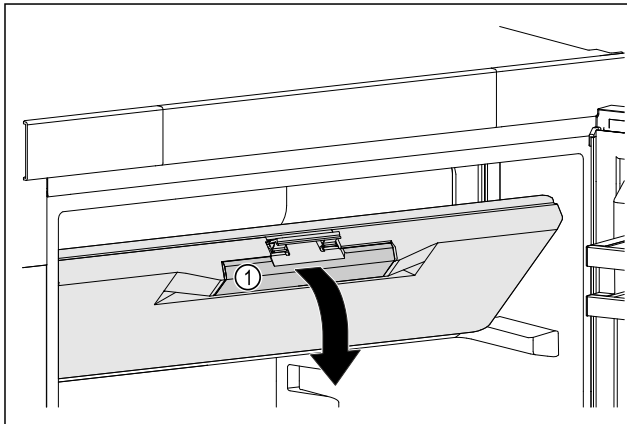

Fig. 23
- Hold the freezer compartment door by the recessed handle Fig. 23 (1).